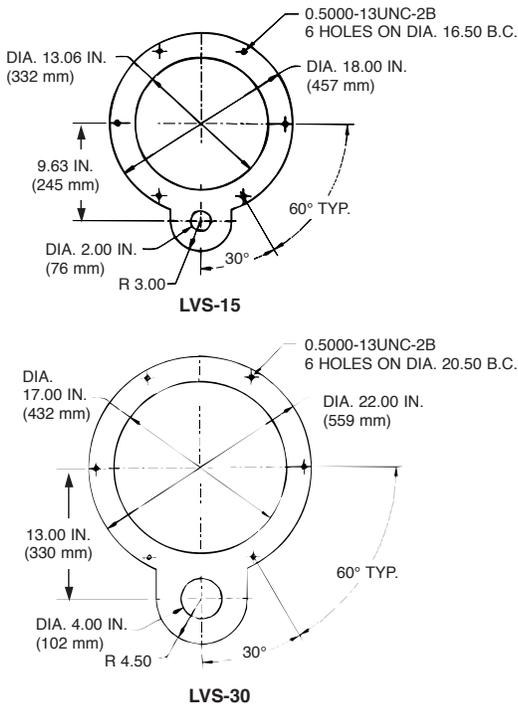

FIGURE 5-5
3. If the location is suitable, remove tank from tank mounting ring (Part No. 428404 (LVS-15) or Part No. 428405 (LVS-30)), and bolt the tank mounting ring in position. See Figure 5-5.